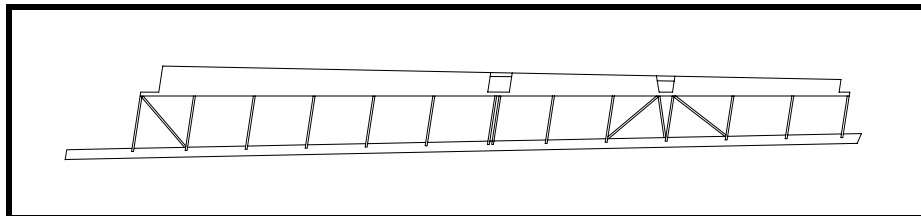

Figure 25
- ❑ Trim the upper leading edge skin for the hinge openings. See Figure 25. The leading edge skin should not be cut at this time since it will continue to stiffen the assembly during the skinning of the trailing edge. All you want to do is expose the spar for clamping to the 20x20 jig supports for the next skinning operation.